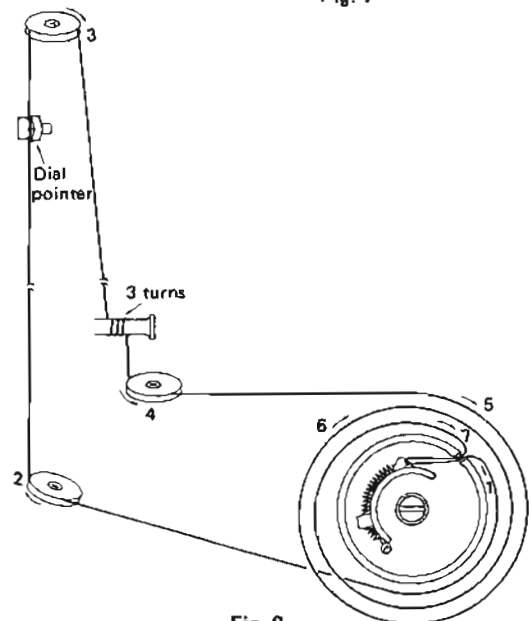

Fig. 8
* For threading a fresh cord, proceed as follows. (Fig. 8)